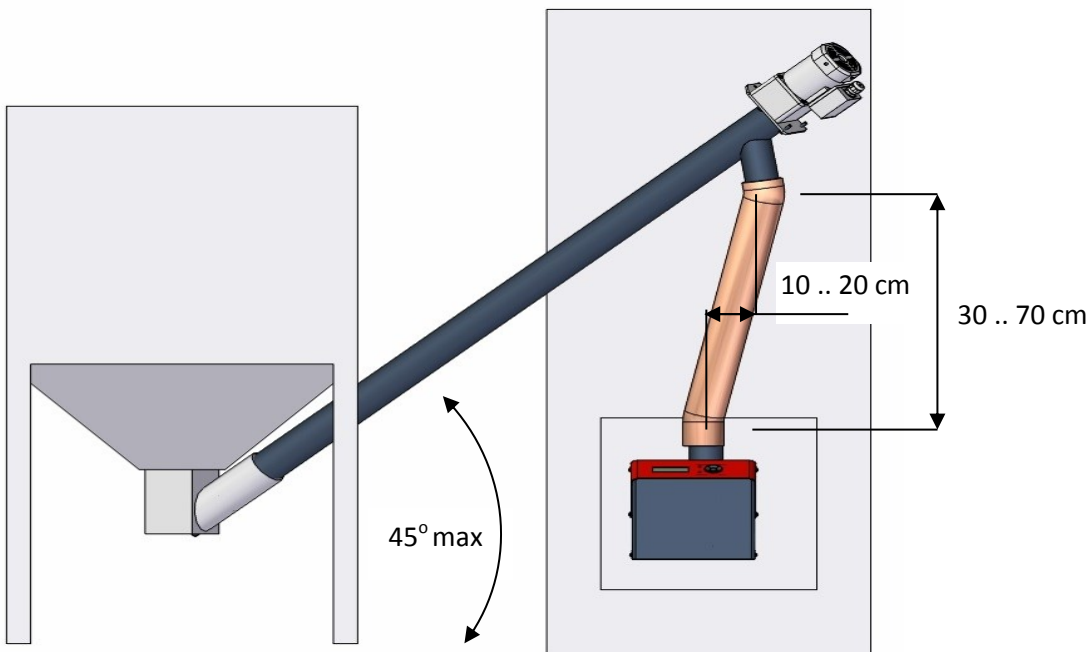

Figure 12 External auger installation
- The container must be positioned in a way that the raising angle of the feeding auger does not exceed 45° (refer to Figure 12).
Figure 12 shows correct position for external auger. As the hose is a safety device, it must be placed strictly as described below. The vertical distance between auger outlet and burner inlet must be in range of 40 to 70 cm and horizontal displacement 10 to 20 cm (typical auger angle  $30^{\circ}$ .. $45^{\circ}$ ). External auger cannot be installed in position with angle greater than  $45^{\circ}$ . The hose must be in angle of  $50^{\circ}$  or more to ensure free falling of the fuel.
- External auger is connected to burner and auger position is according to requirements in Figure 12.